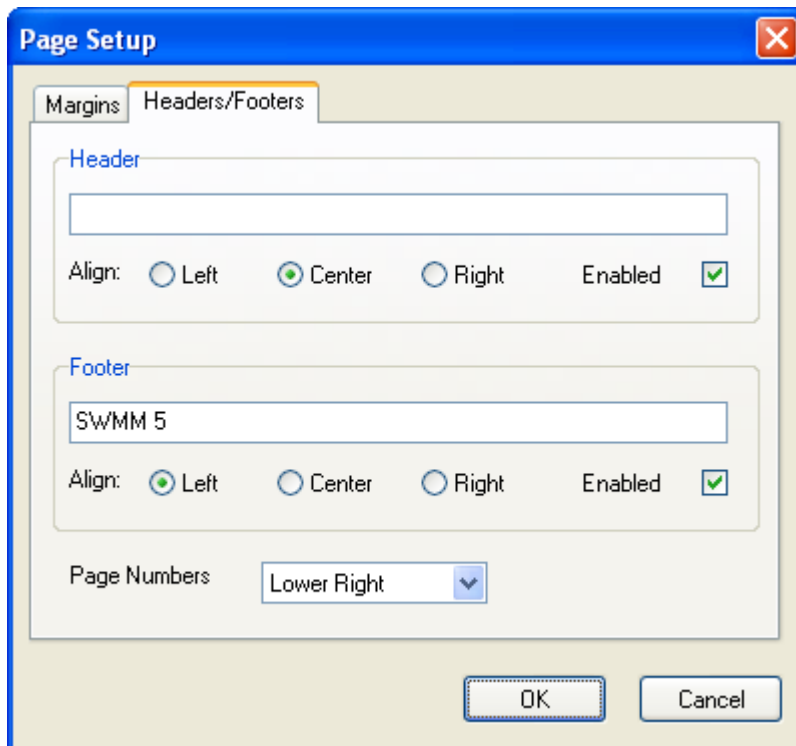

Figure 10-2. The Headers/Footers page of the Page Setup dialog.
6. Use the Headers/Footers page of the dialog box (Figure 10-2) to: